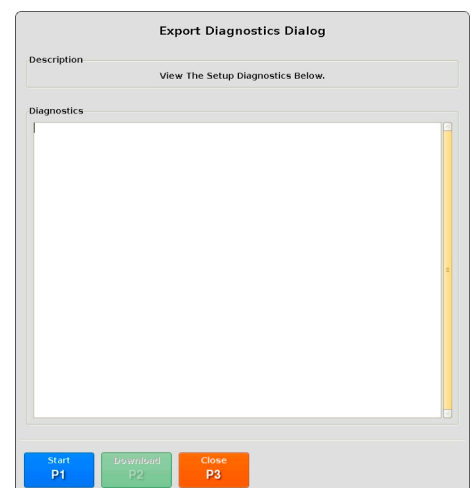

Fig. 44: “Export Diagnostics” dialog
- ▷ In the “Diagnostics” menu navigate to the “Export” menu item and select it by pressing **P1**. The “Export Diagnostics” dialog is displayed (see Fig. 44).